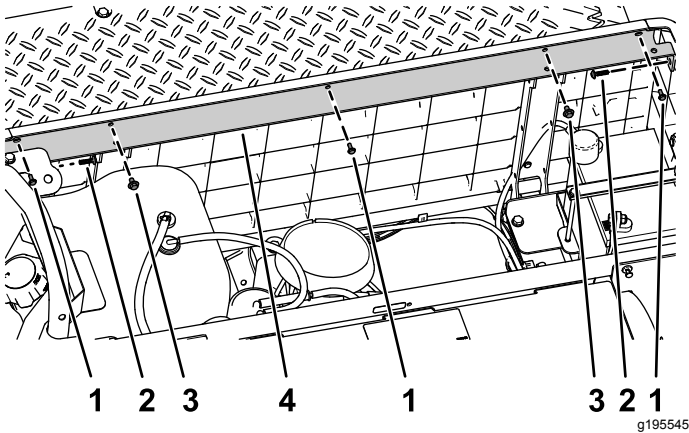

Figure 3
3. Remove the 3 screws (#10 x 1/2 inch), 2 bolts with washer assemblies (1/4 x 1/2 inch), and 2 torx-head screws securing the existing seat support (Figure 3).
4. Remove the existing seat support (Figure 3).